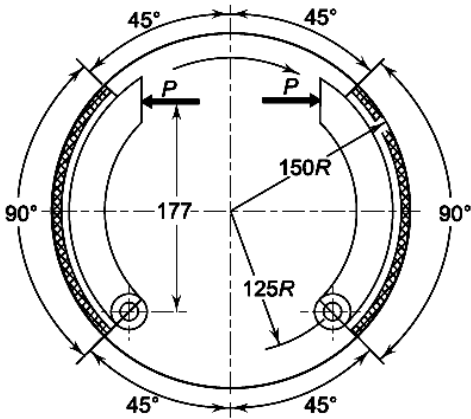

Fig. 3
7. An automotive-type internally-expanding brake is shown in Fig. 3. The face width of the friction lining is 50 mm and the coefficient of friction is 0.4. The maximum intensity of pressure on the lining is 0.8 N/mm^2 . The angle θ_1 can be assumed to be zero. Calculate: (i) the actuating force; (ii) the torque capacity of the brake. Take all dimensions in the figure in mm.